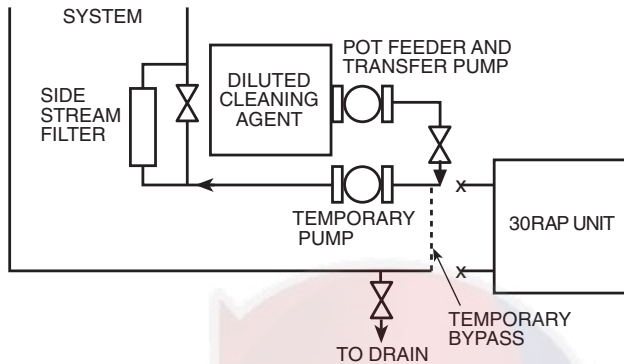

Fig. 20 — Cleaning Using a Side Stream Filter
- c. A side stream filter is recommended (see Fig. 20) during the cleaning process. Filter side flow rate should be enough to filter the entire water volume every 3 to 4 hours. Change filters as often as necessary during the cleaning process.